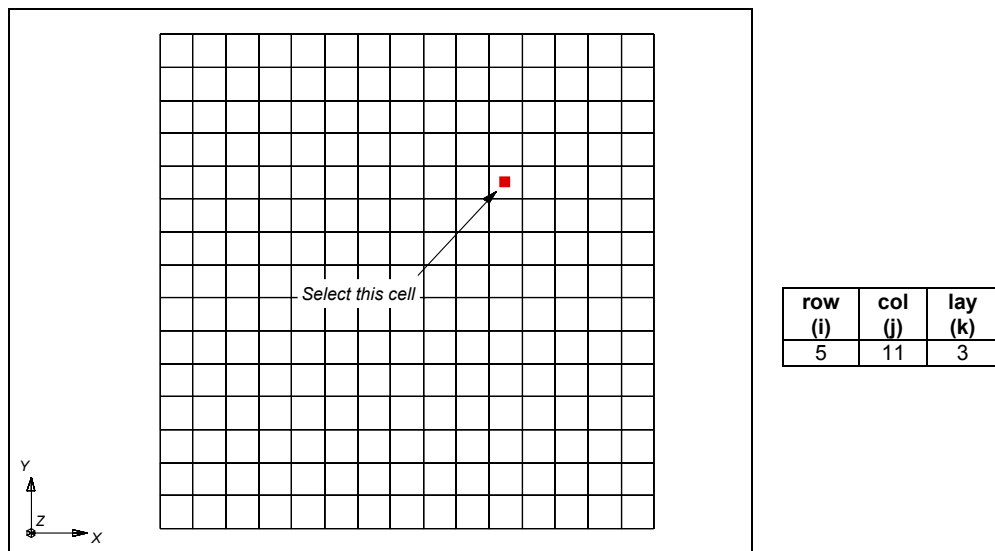

Figure 2-5 Cell to be Selected on Bottom Layer.
2. Select the cell is shown in Figure 2-5.